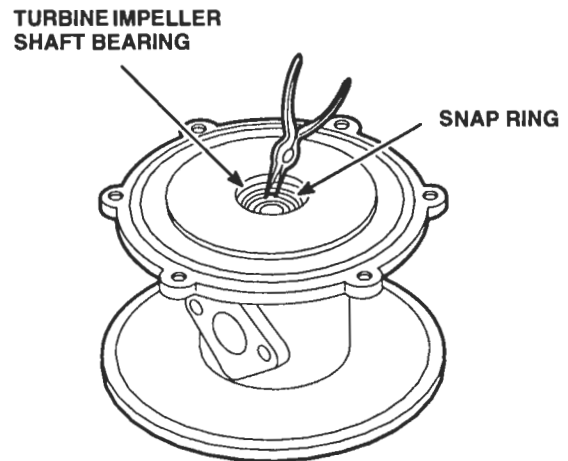

Figure 22. Shaft Bearing Retaining Ring Removal
- b. Remove the shaft bearing retaining ring from the center housing with a pair of snap ring pliers (Figure 22.)